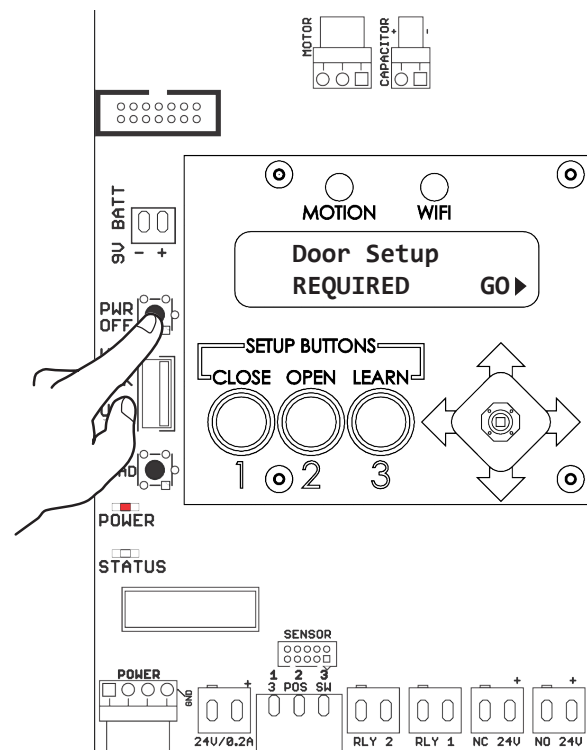

Figure 2
3. Use supplied green connectors to wire in any devices needing outputs, such as electric strikes, mag locks, exit devices, door open position output, etc. (Figure 2) See Input Connections on page 10 and Output Connections on page 11 for information.
4. Turn on building power feed. Power will normally be "On" for operator. Power can be turned on or off by pressing power button. (Figure 2)
**NOTE:** On control board there should be one solid red LED for POWER and one white LED that flashes every 1.5 - 2 seconds for STATUS. CLOSE button of Setup Buttons should be flashing orange continuously. (Figure 2)